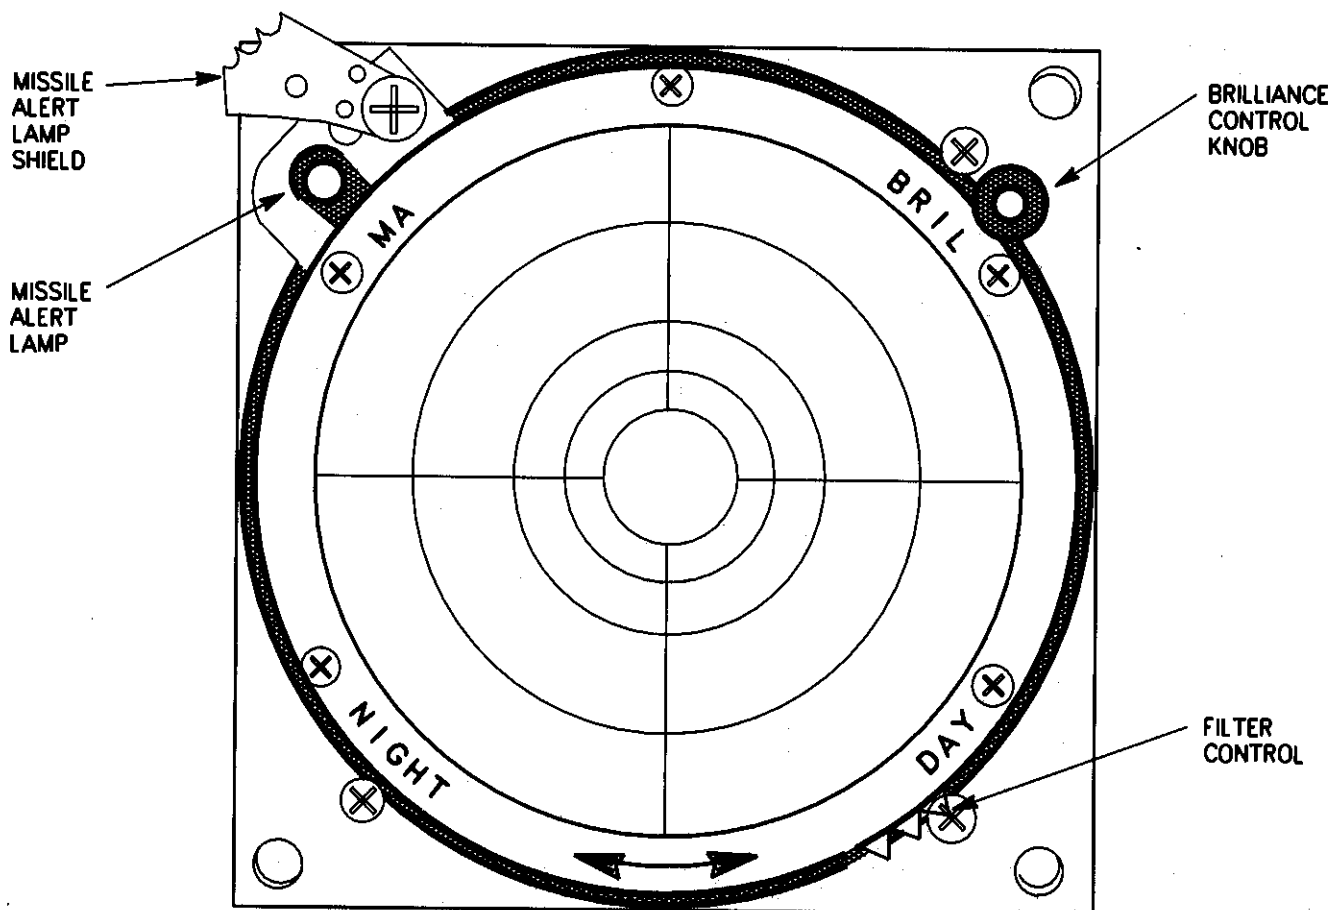

Figure 2. Radar Signal Indicator IP-1150/APR-39(V)
Figure 2 shows front view of indicator. The indicator is mounted on top and left center of instrument panel. On front of indicator is direction display screen (CRT display). The normally dark screen will light with a line-of-bearing strobe indicating distance and direction of detected radar threat. A brilliance control knob (BRIL) is located in upper right-hand corner of indicator. In upper left-hand corner is the missile alert lamp (MA) that can be covered or uncovered by MA lamp shield. In lower right-hand corner is variable filter dial which when turned in direction of NIGHT or DAY will screen the illumination of CRT.